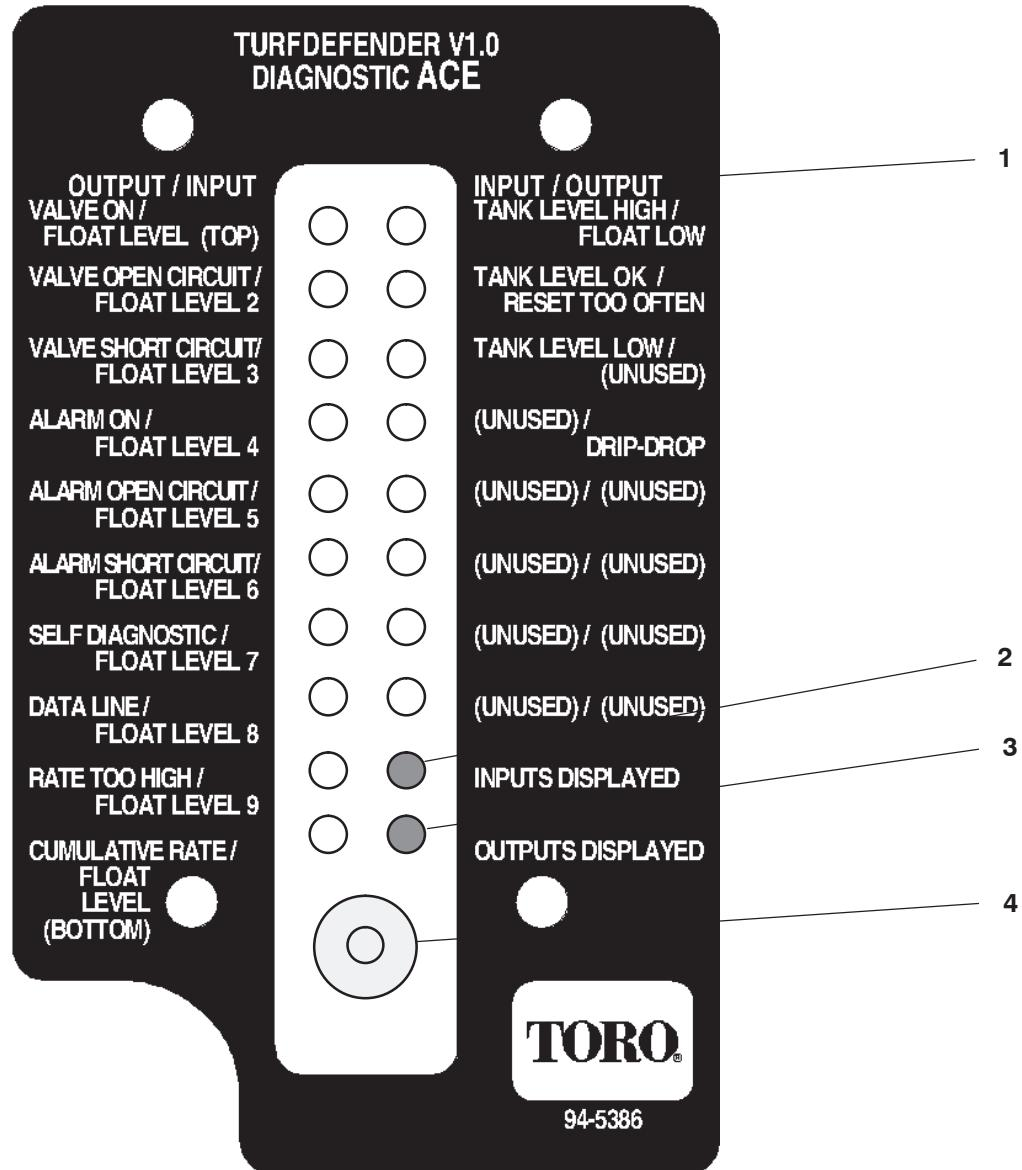

Figure 12
3. Connect the ACE Diagnostic display connector to the correct harness loopback connector. Install TurfDefender overlay decal (supplied with leak detector kit) onto ACE Diagnostic Display (Fig. 12, page 8).
5. The red "Inputs displayed" LED (Light Emitting Diode), on lower right column of the ACE Diagnostic Display, should be illuminated. If green "Outputs displayed" LED is illuminated, press and release the toggle button, on ACE Diagnostic Display, to change LED to "Inputs displayed". Do not hold button down (Fig. 12).
1. When toggling “input”, an LED should display (Fig. 12) any of the following problems diagnosed by the TurfDefender: